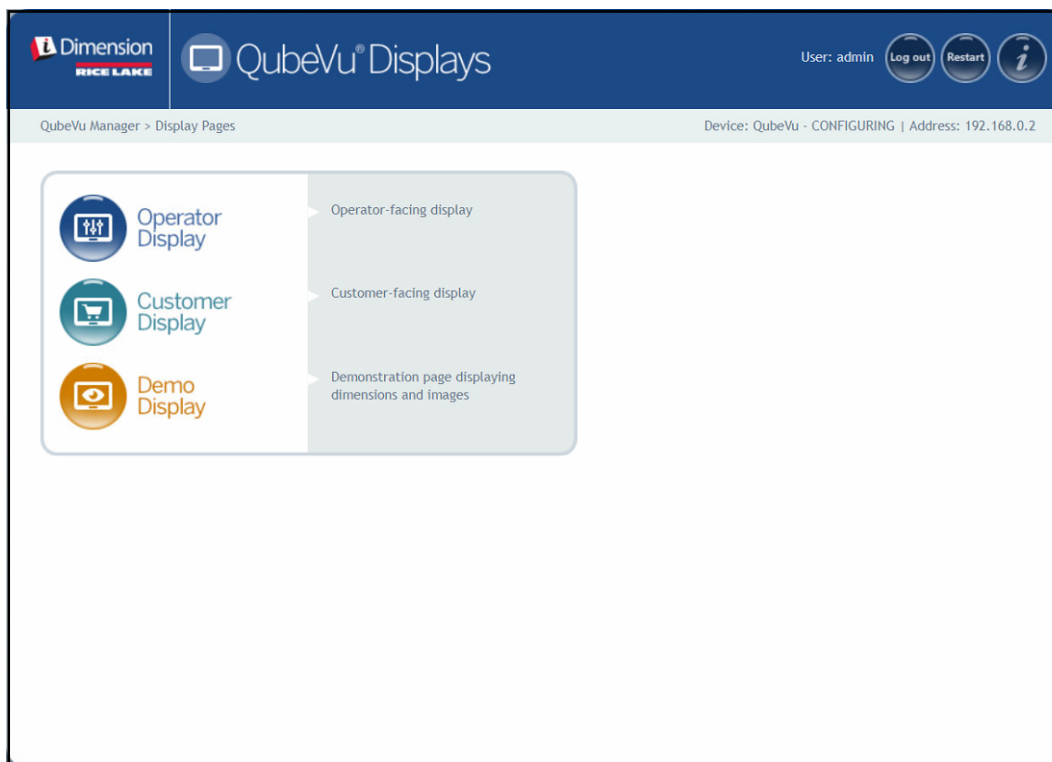

Figure 3-1. Displays Menu
- Select  **Operator Display** from the **Display Pages** menu (Figure 3-1 on page 15). The Operator Display appears.
- Select  **Customer Display** from the **Display Pages** menu (Figure 3-1 on page 15). The Customer display appears.
- Select  **Demo Display** from the **Display Pages** menu (Figure 3-1 on page 15).